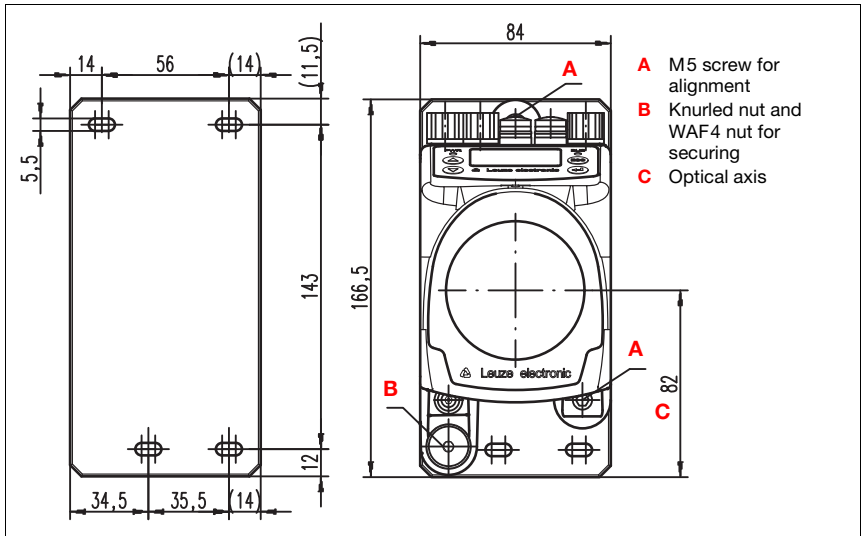

Figure 5.2: Mounting the device
The laser light spot has to be aligned so that it always hits the center of the opposing reflector, both at close range as well as at the maximum measurement distance. **To align, use the two M5 Allen screws** ("A" in figure 5.2). When aligning please ensure that the knurled nut and the lock nut ("B" in figure 5.2) are opened wide.
*To prevent the laser measurement system from moving out of alignment during continuous operation, subsequently hand-tighten the knurled nut and counterlock with the WAF4 nut ("B" in figure 5.2). Knurled nut and nut must not be tightened until alignment has been completed.*